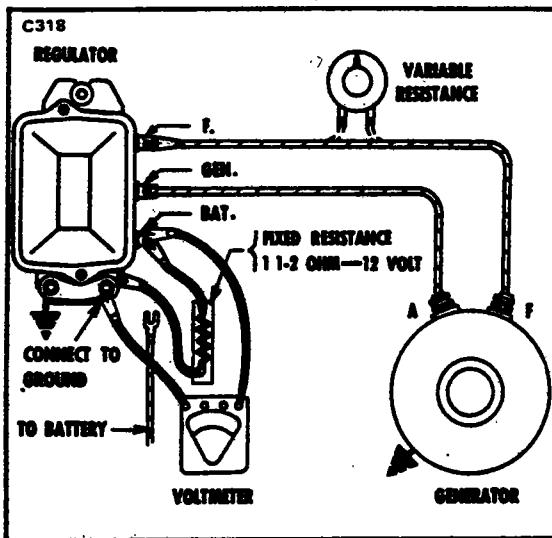

Figure 11-7.. Checking Voltage Setting Fixed Resistance Method
b. Voltage Setting: There are two ways to check the voltage setting; the fixed resistance method and the variable resistance method. (Refer to Figures 11-7 and 11-8.)
(a) Connect a fixed resistance between the battery terminal and ground as shown in Figure 11-7 after disconnecting the battery lead from the
Method 2: Connect a variable resistance into the field circuit as in Figure 11-7. Turn out all resistance. Operate generator at specified speed. Slowly increase (turn in) resistance until generator voltage is reduced to 4-volts. Turn out all resistance again and note voltage setting (with voltmeter connected as in Figure 11-7). Regulator cover must be in place.
It is very important that the variable resistance be connected at the "BAT" terminal as shown in Figure 11-7 rather than at the "GEN" terminal even though these terminals are in the same circuit. An examination of the wiring diagram, Figure 11-2, will show that regulation begins at the point where the shunt windings are connected to the series circuit. Any small resistance added to the circuit between the generator and this point will simply be offset by a rise in generator voltage without affecting the output shown at the ammeter.